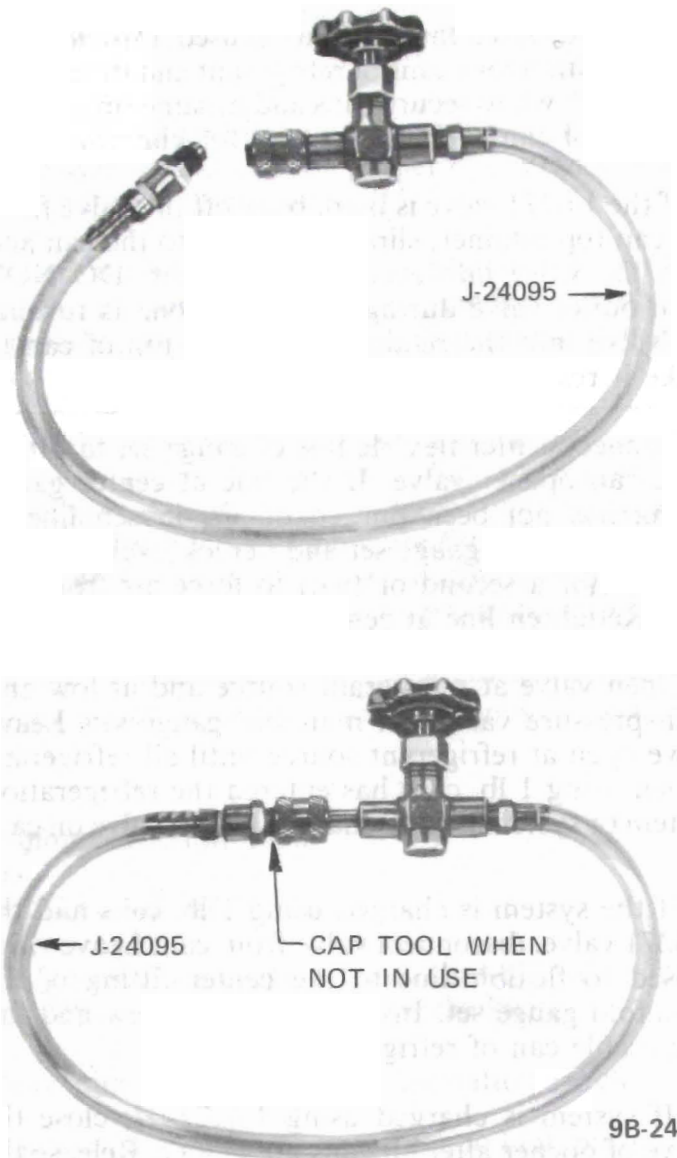

Figure 9B-26 Oil Injector J-24095
f. Disconnect J-24095 and attach pick-up tube fitting to schrader fitting to cap tool. See Figure 9B-26.
6. Turn hand shut-off valves at low and high pressure gauges of gauge set to full clockwise position with vacuum pump operating, then stop pump. Carefully check low pressure gauge approximately for two (2) minutes to see that vacuum remains constant. If vacuum reduces, it indicates a leak in the system or gauge connections.
Disconnect electrical connector from thermal limiter assembly. Insert a jumper wire between terminals B and C of connector if compressor operation will be required prior to refrigerant system being fully charged. See Figure 9B-16.